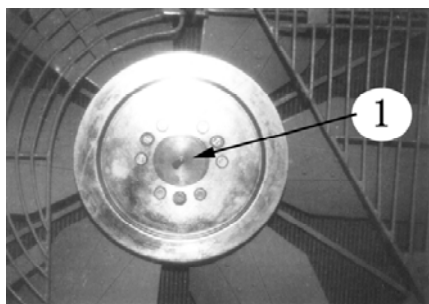

FIGURA 5-15
9. ENGRAXE O EIXO DO VENTILADOR (VER A FIGURA 5-15) EM 1 PONTO.